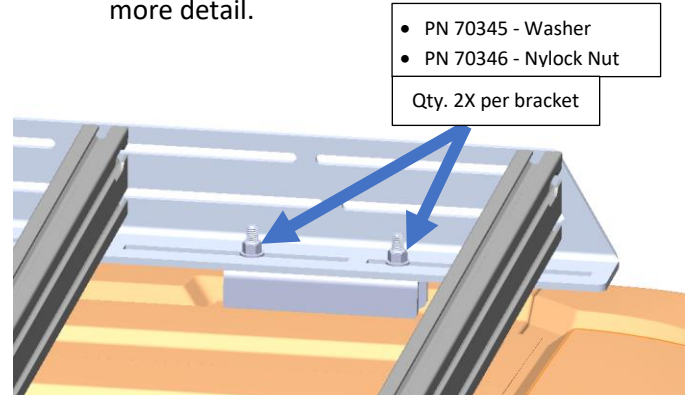

Figure 14: Fastening Transit Mounting Bracket (Underside)
13. Fasten roof rack to mounting brackets using the 5/16" hardware and referencing Figure 14 for more detail.